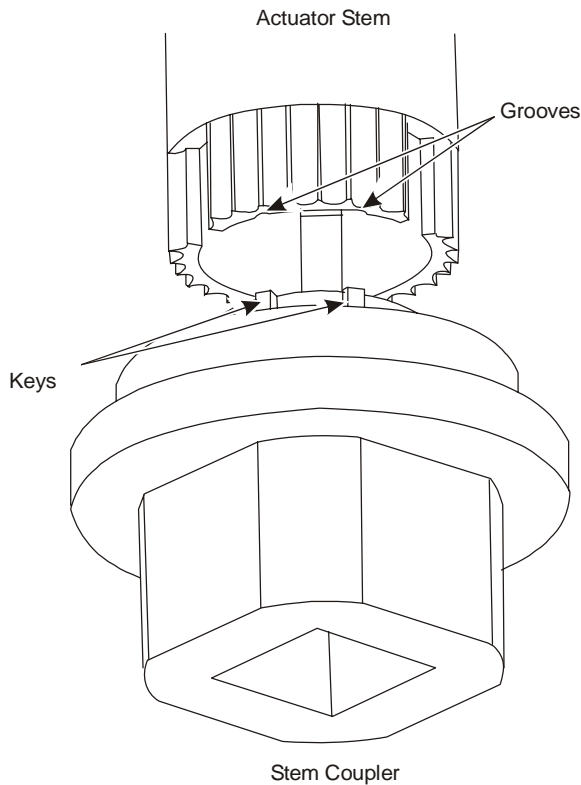

Figure 6: Installing the Stem Coupler
2. Install the stem coupler. Make sure that keys on the stem coupler align with the grooves on the inside of the actuator stem. See Figure 6.